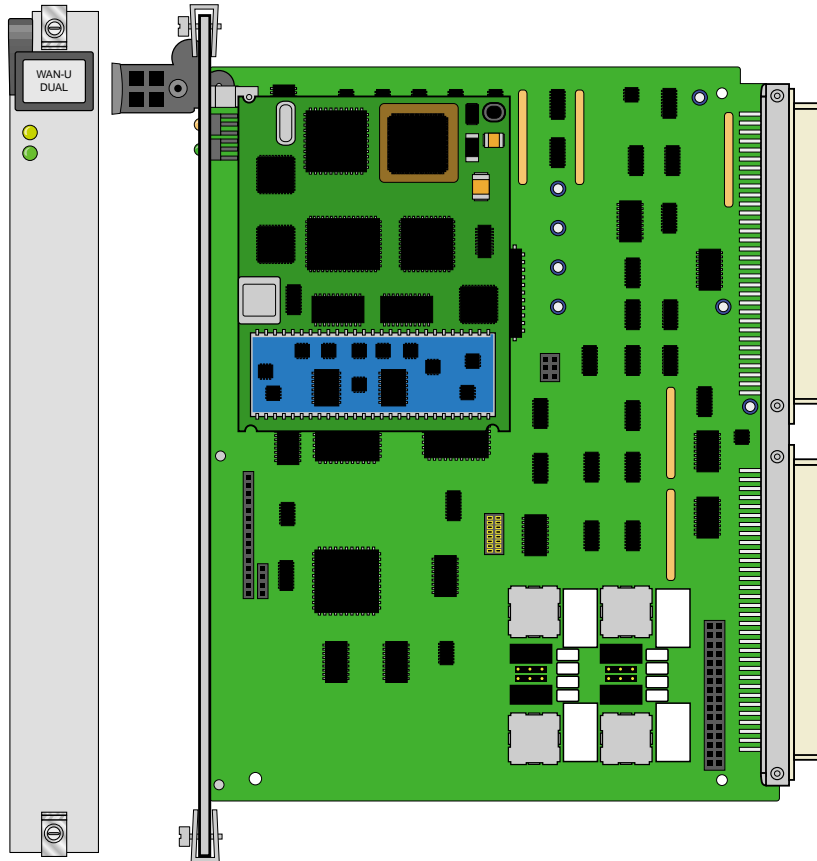

Figure 7-2. WAN-U DUAL Card (801160)
The WAN-U card is a dual-port card that provides HDSL 2.048 Mbps (E1) service when used with E1/HDSL plug-in modules (see Figure 7-2). **Only use the Adtran E1/HDSL module (820) with this card.**